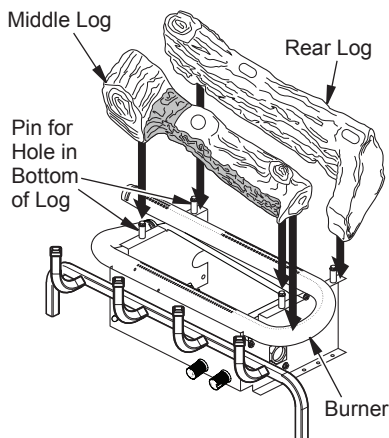

Figure 18 - Installing Rear and Middle Logs
1. Place rear log (#1) onto base. Holes in bottom of log must seat over pins on base as shown in Figure 18.
2. Place middle log (#2) onto base. Holes in bottom of log must seat over pins on base as shown in Figure 18.